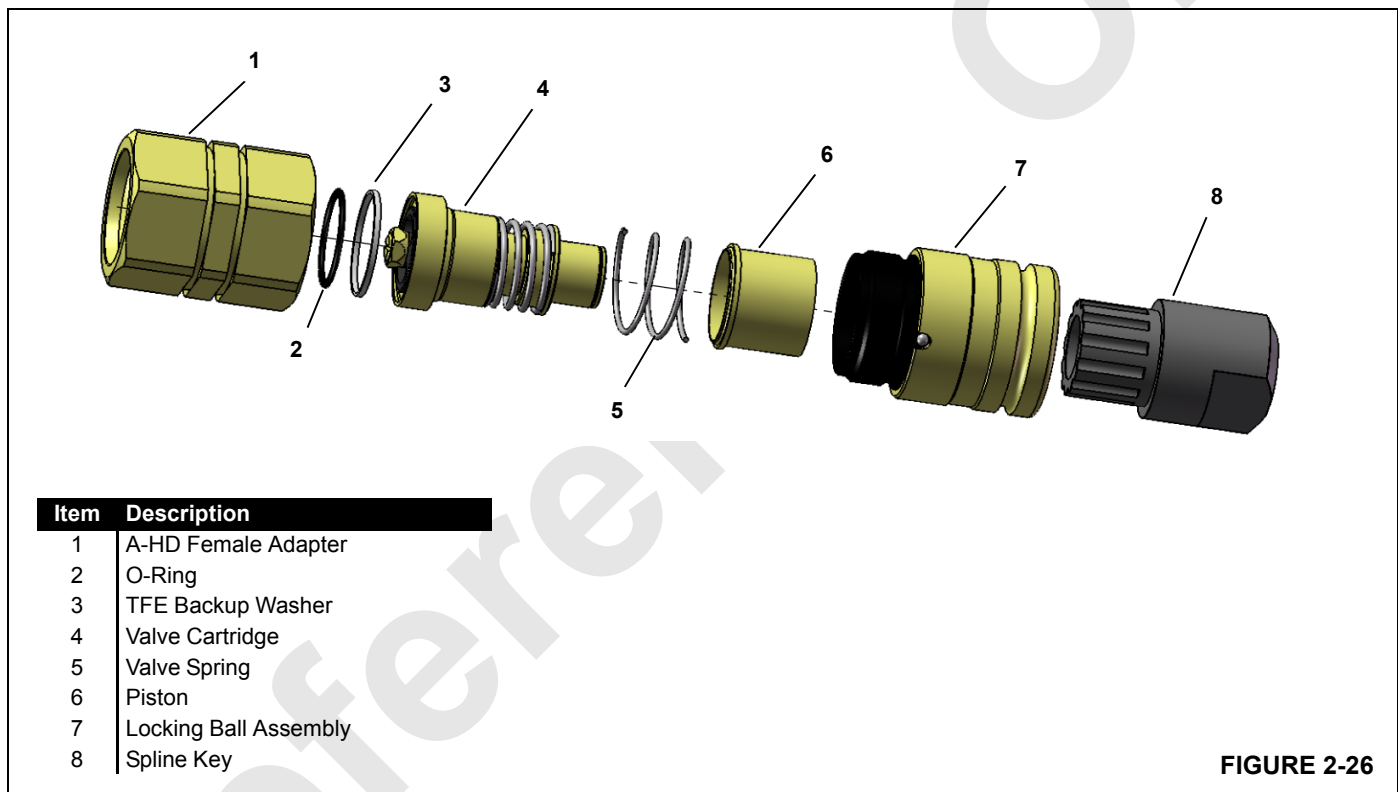

FIGURE 2-26
See Figure 2-26 for the following procedure.
1. If available install Locking Ball Spline Key (8) into coupler body. Slightly rotate and push in until ball engagement is made.
3. Disassemble coupler as shown in Figure 2-26, and place coupler body into vise
4. Assemble the replacement cartridge assembly (4), o-rings, valve spring, piston, and back washer if present,
as shown in Figure 2-26 and loosely tighten the female adapter (1) to the locking ball assembly (7). Check for proper operation of the coupler.